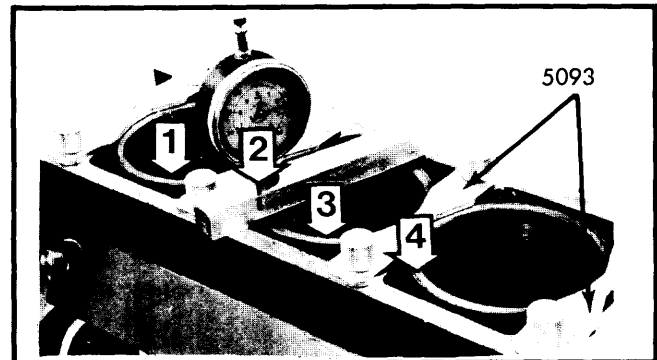

Fig. 12 Checking Liner Height Above Block Face
6) After shimming, install four liner holders (5093) for each bank. Again measure each liner at three points. Largest and smallest dimensions should be within .002" (.05 mm). Measure three liners at points shown in Fig. 12. Difference in measurements between points "1" and "2" and between "3" and "4" should not exceed .0016" (.04 mm). If height difference is excessive, change shims.